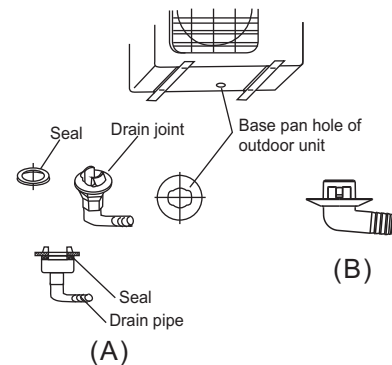

Fig. 15
For the drain joint with the seal (Fig. 15 (A)), first fit the seal onto the drain joint, then insert the drain joint into the base pan hole of outdoor unit, rotate 90° to securely assemble them. To install drain joint as shown in Fig. 15 (B), insert the drain joint into the base pan hole of outdoor unit until it remains fixed with a clicking sound. Connecting the drain joint with an extension drain hose (Locally purchased), in case of the water draining off the outdoor unit during the heating mode.